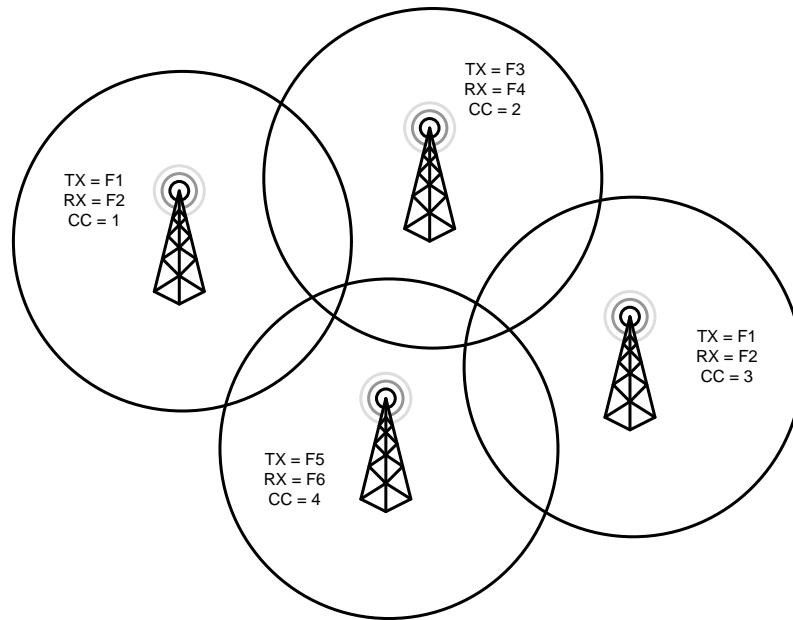

Figure 2-6 Dense Overlapping Coverage (Urban)
1. **Dense Overlapping Coverage (Urban)** – This type of RF coverage consists of sites located close to each, which necessitates utilizing different frequencies for the neighboring sites; refer to Figure 2-6. The non-overlapping sites may reuse the frequencies, but must use different color codes to be identified by the subscribers during roaming. A radio user transitions from one site to another within 10-15 minutes.